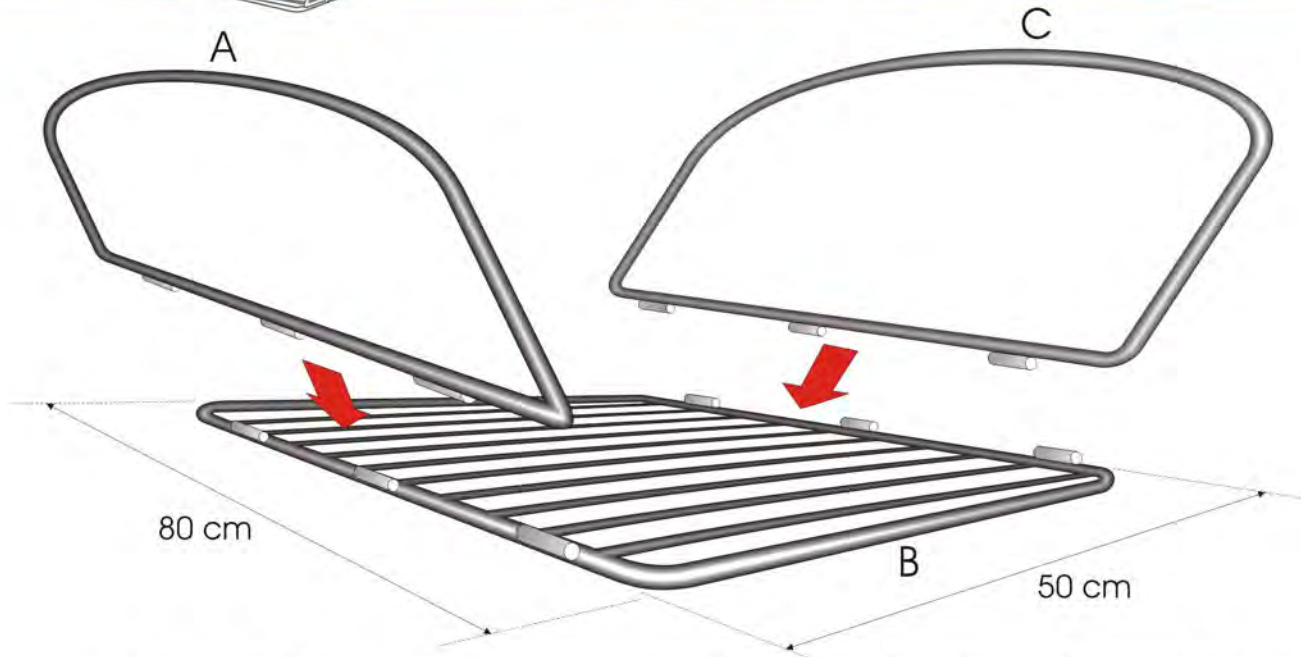

Figure 6: Connecting the front and back parts (Part A and C) to the base (B).
2.1.4 Connecting the base (B) to the front part (A) and back part (C)
Six hinges are needed to connect parts A, B and C. The hinges should be connected to the long sides of the base (B) and the bases of the front part (A) and back part (C). The spacing between these hinges should be equal (see figure 6).